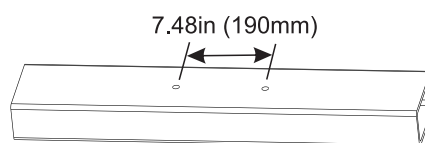

Figure 6
2. Drill two holes of distance S1 on the mounting bar (Figure 6)